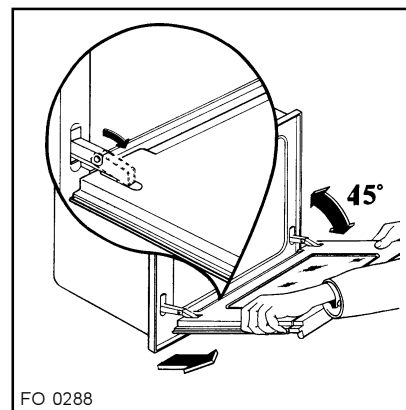

Fig. 9
- b) find the hinges linking the door to the oven (Fig. 9);
- c) unlock and turn the small levers located on the two hinges (Fig. 9);
- e) gently pull the oven door off its site (Fig. 9);